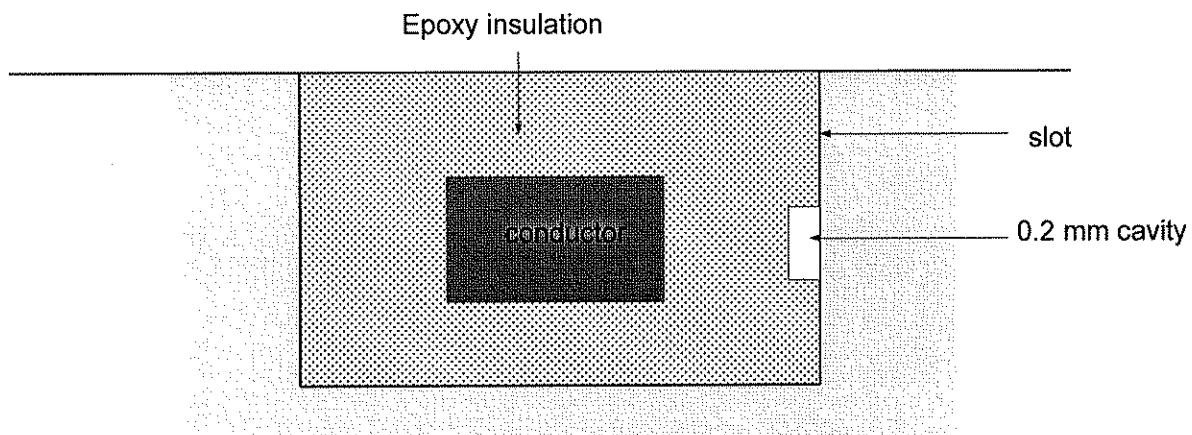

Figure 1: An air filled cavity trapped in insulation in a motor stator slot
- a) Figure 1 below shows a section of a single turn motor coil in a stator slot. The insulation around the conductor is 3 mm thick and has been extremely carefully applied and it can be assumed to be void free. However, irregularities in the slot make it possible to have a gap between the outer surface of the insulation and the slot side of 0.2 mm.